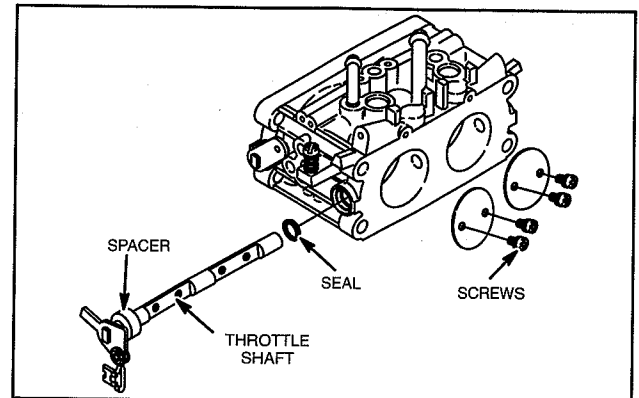

Fig. 52 – Install Throttle Shaft
2. Install throttle shaft with spacer, Fig. 52.